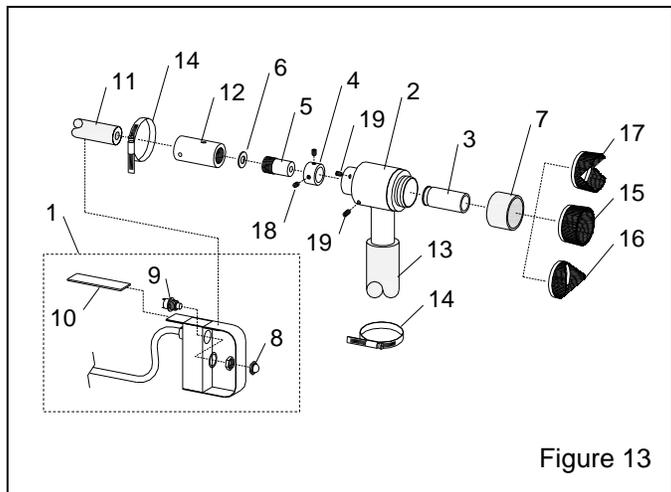

Figure 13
8.3 Blast Head and Control Assembly, Figure 13